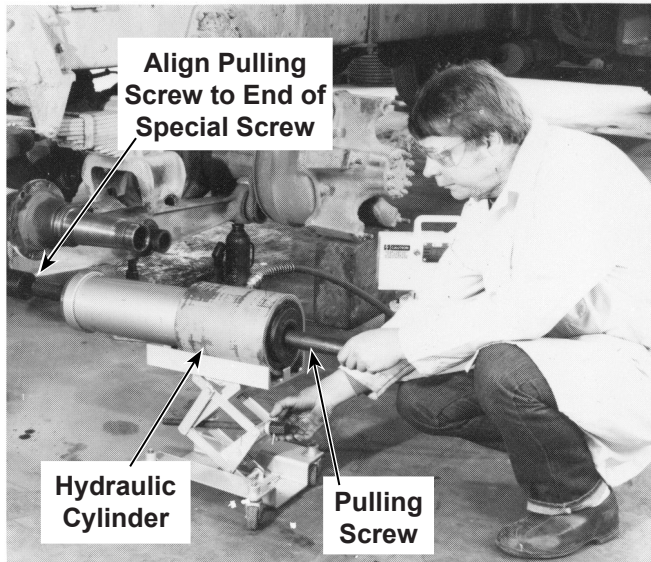

Figure 6
5. With the pulling screw (Item 5) inserted through the hydraulic cylinder, position the cylinder so the end of the pulling screw aligns with the special screw (4) installed earlier. Then thread the pulling screw into the special screw. See Figure 6.